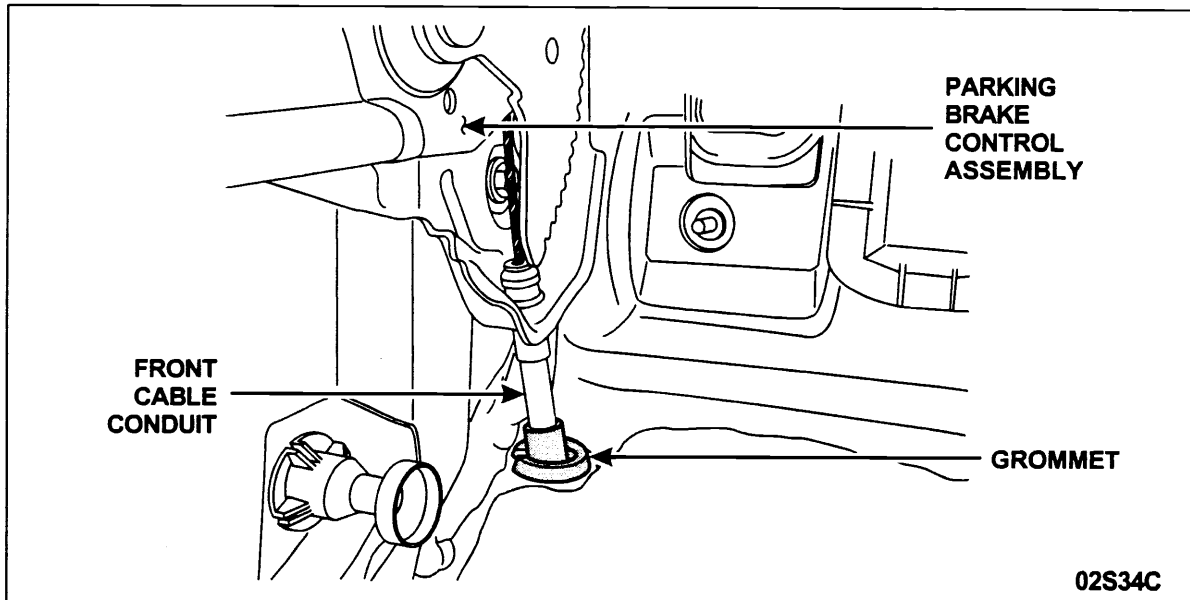

FIGURE 3
10. Remove the three (3) parking brake control assembly retaining nuts.
12. From under the vehicle, push the grommet attached to the front cable conduit up through the floor. See Figure 3.